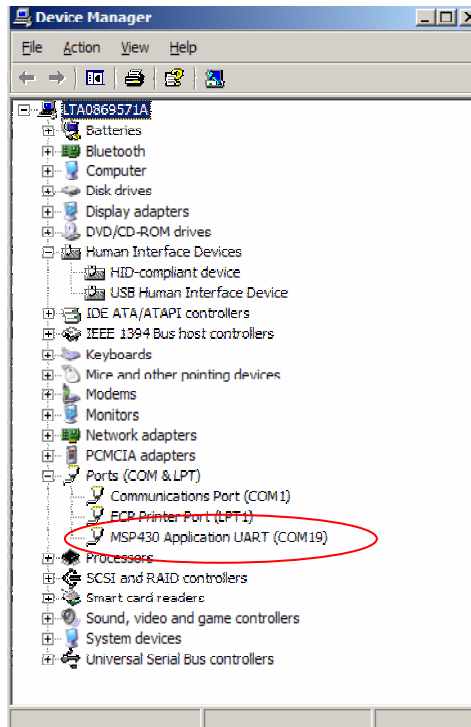

Figure 19. Device Manager
10. The eZ430-RF2500 is now installed and ready to use. The assigned COM port for the MSP430 Application UART is shown in the Windows Device Manager (see Figure 19).